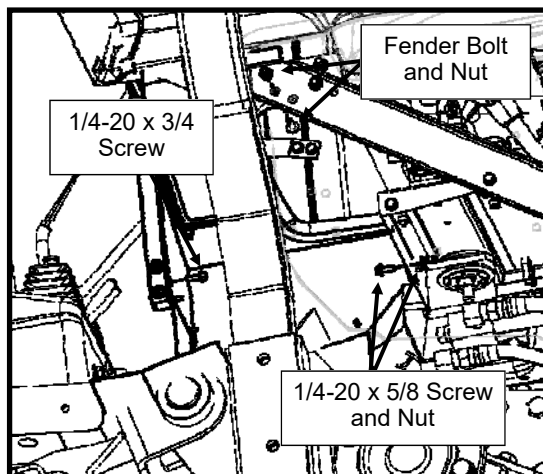

Figure 7.3a: Right Rear Corner Filler
- 7.3 Fasten the right rear corner filler to the vehicle (see Figures 7.3a and 7.3b, right wheel hidden for clarity). Tighten the two 1/4-20 screws and leave the remaining hardware loose.